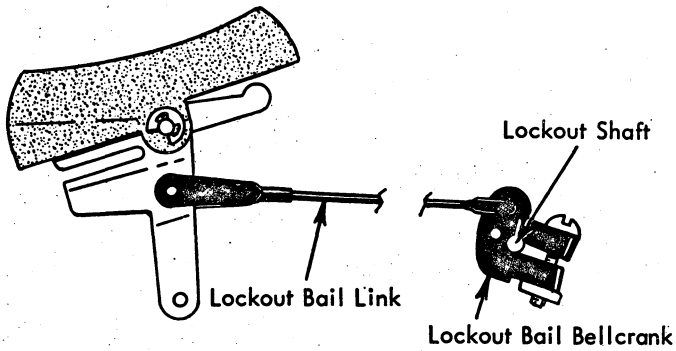
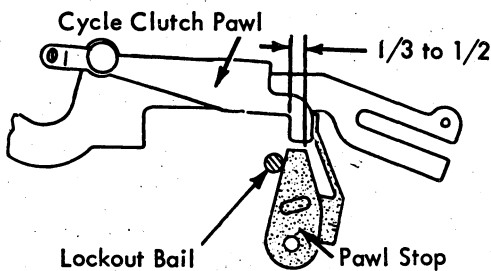

FIGURE 51. Lockout Link
FIGURE 52. Cycle Clutch Pawl Stop
- Lockout Bail Link** - Position the clevis approximately half way on the threads of the link (Fig. 51).
3. Lockout Bail Bellcrank - With the On/Off switch in the off position rotate the lockout bail relative to the lockout bail bellcrank (Ref. Fig. 51) so that the cycle clutch pawl stop overlaps the cycle clutch pawl by $1/3$ to $1/2$ (Fig. 52).